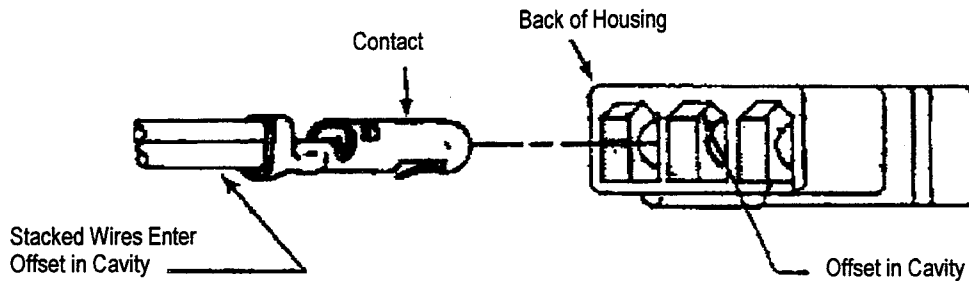

Figure 2
- For two-wire leads, first align contact with cavity as shown in Figure 2. Then push contact into housing and check to make sure it is properly inserted.